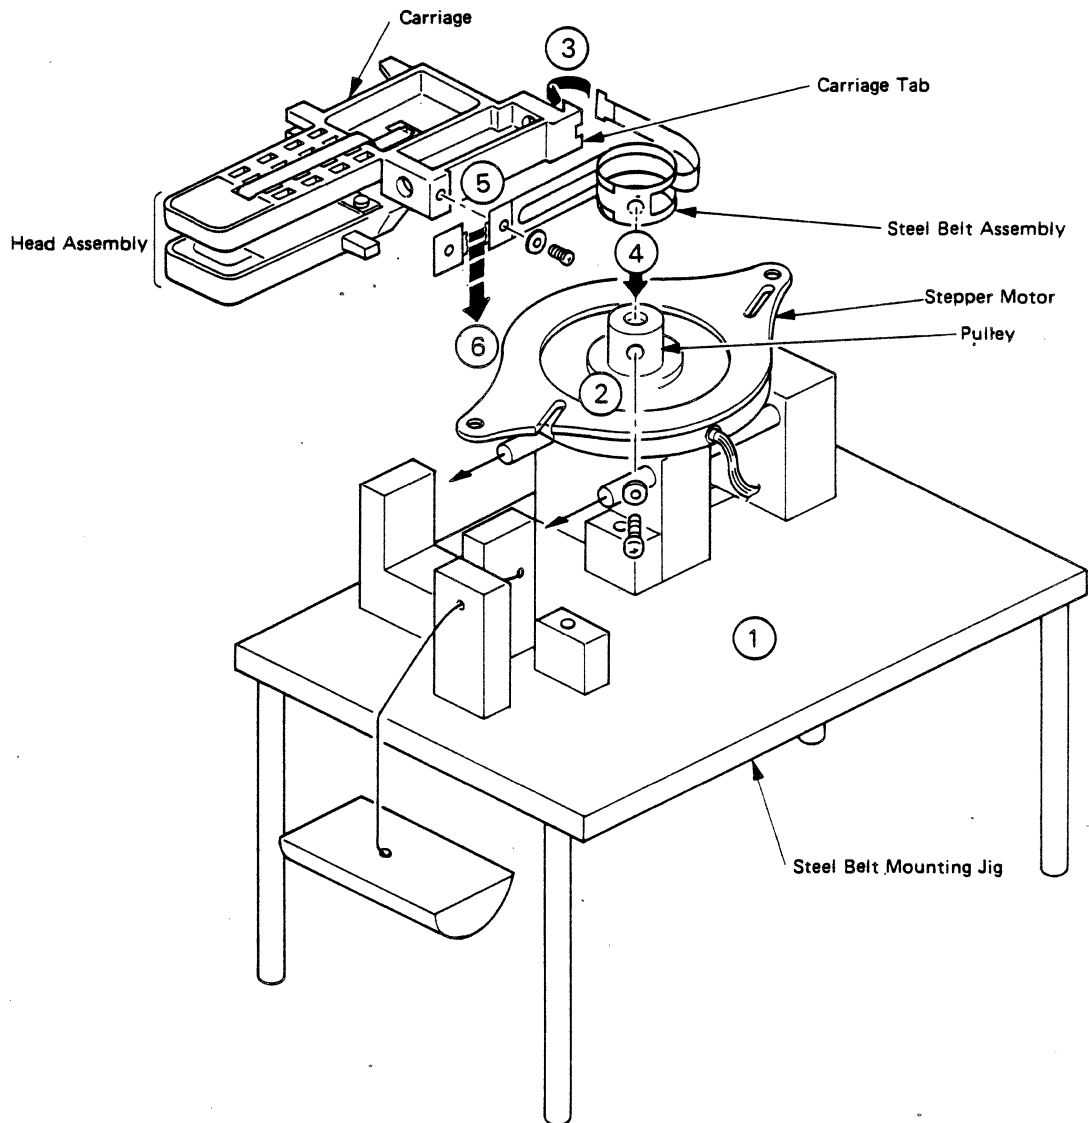

Fig. 5.1 Head and Stepper Motor Assembling
5.7 Head and Stepper Motor Removal and Installation (See Fig. 5.1.)